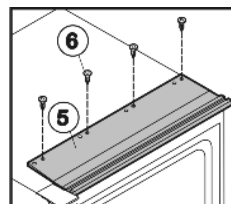

Fig. 47
- Screw on upper installation contour *Fig. 47 (5)* through the pre-cut holes using four screws *Fig. 47 (6)*.